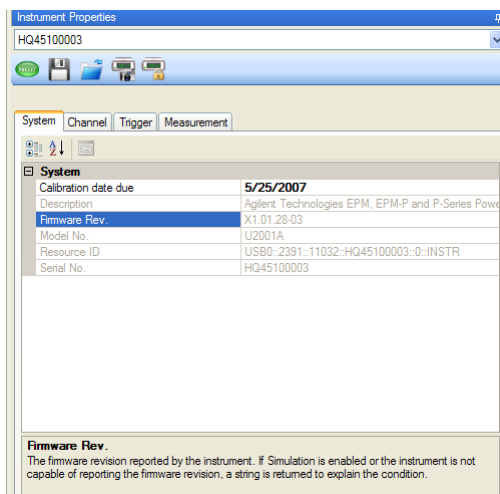

Figure 1-3 Power Analysis Manager Instrument Properties panel
- Figure 1-3 Power Analysis Manager Instrument Properties panel 7